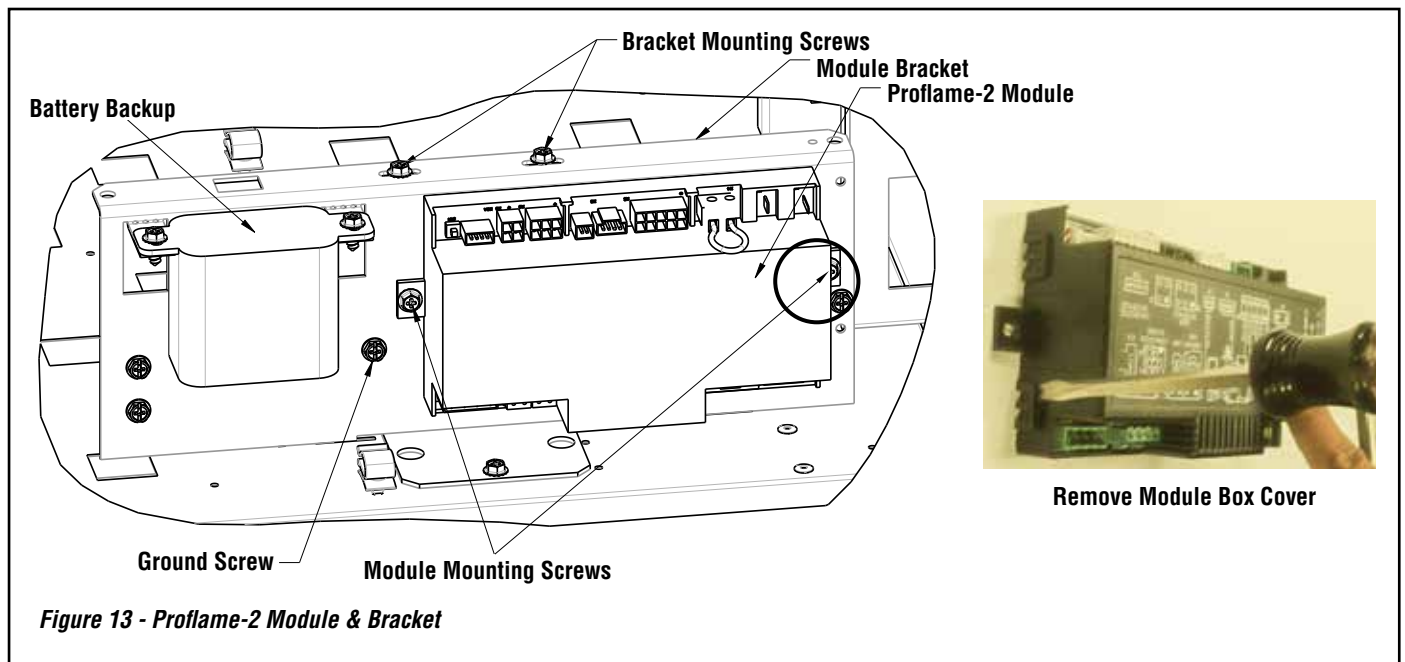
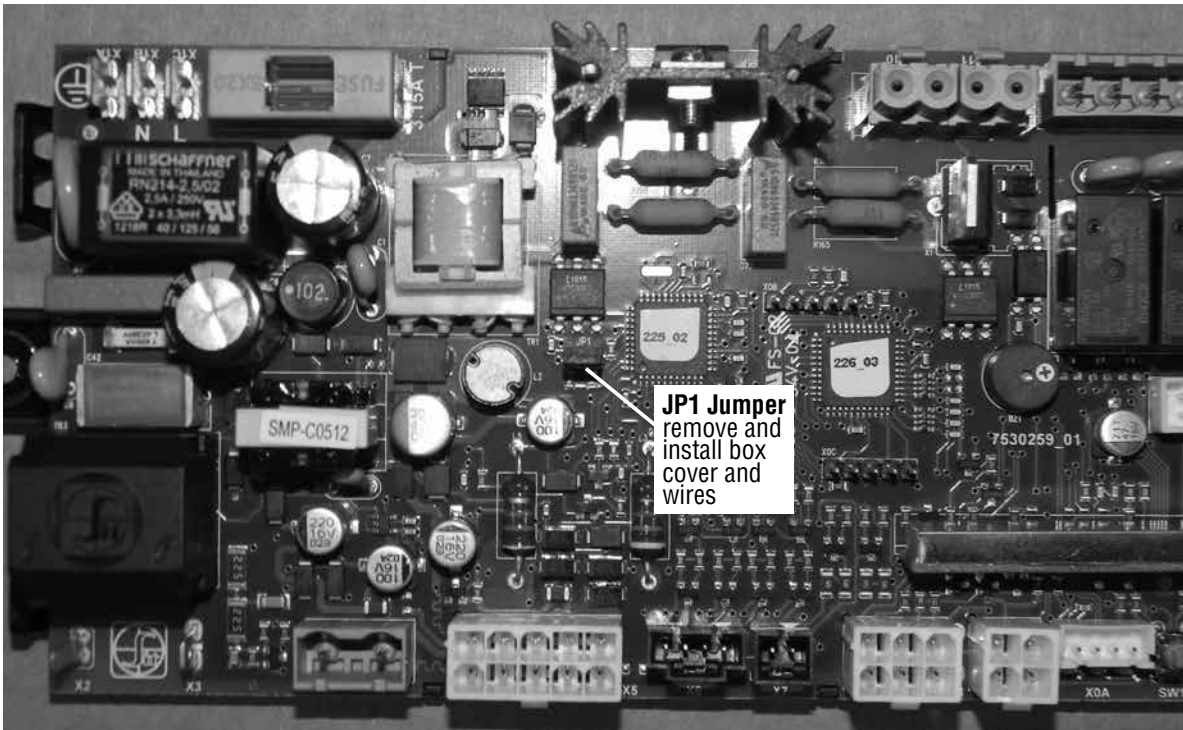

Figure 13 - Proflame-2 Module & Bracket
Figure 14 - Removing JP1 Jumper to Enable Power Vent
8.1 Disconnect POWER from the Proflame-2 module and all other wiring. Remove the two mounting screws on the top of the **Module Bracket (Figure 13)** and lift assembly from fireplace. Unscrew Proflame-2 **module** from bracket. Use a flat head screwdriver to un-snap and remove Proflame-2 module box cover (**Figure 13**). Remove Jumper from “JP1” location (**Figure 14**). Reinstall Proflame-2 module box cover and reinstall the Proflame-2 **module** to the bracket (**Figure 13**).
- 8.3 Install ground from **wiring harness** [#3] and ground from Romex cable (*routed in Step 6*) to ground screw installed on **Proflame-2 bracket** (*Figure 13*).
- 8.4 Reinstall **Proflame-2 module bracket** into fireplace (*Figure 13*) using only the mounting screw on the left.